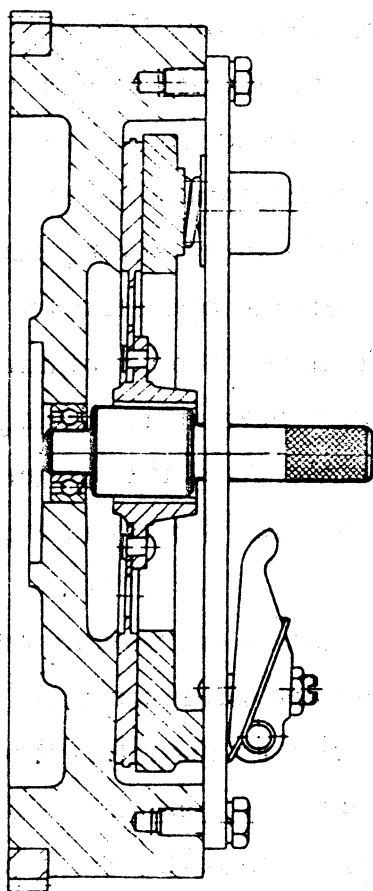

Fig. 35 Usage of the centering mandrel.
3) Pay close attention to prevent the engaged surfaces of the clutch disc, flywheel and pressure plate from grease or dirt when the clutch is dismantled or installed. When install the clutch on to the engine, the centering mandrel (a tool provided with the engine) should be used to make the center line of the clutch disc spline hole coincide with the center line of the flywheel bearing as shown in Fig. 35. Then, fix the support plate onto the flywheel. After the clutch disc has been fastened, take out the centering mandrel and install the clutch housing.